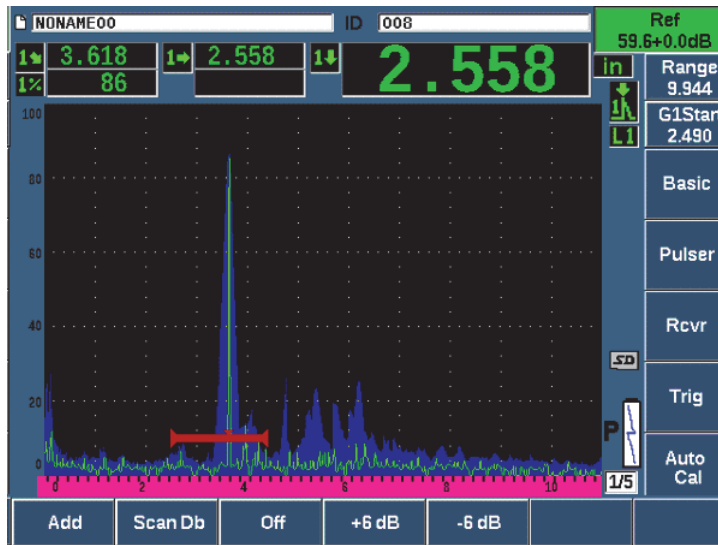

Figure 9-25 Setting the reference gain
5. Use the **Add**, **Scan Db**, **+6 dB**, **-6 dB**, and **Off** parameters to make scanning gain adjustments once the reference gain (**Ref**) is active (see Figure 9-25 on page 187). For more information on these functions, see "Setting Reference Gain and Scanning Gain" on page 118.